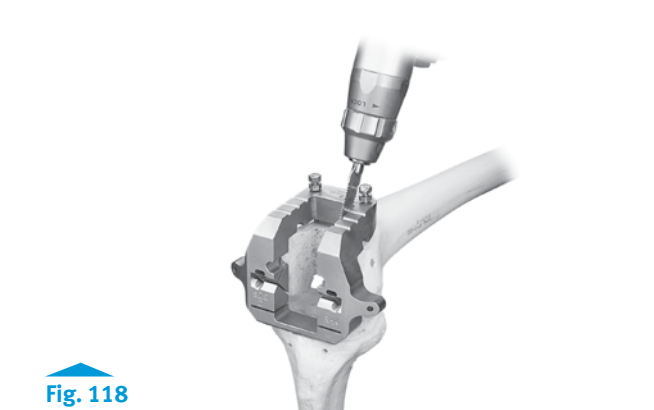

Fig. 118
- Use a reciprocating or narrow oscillating saw blade to cut the sides and base of the RH Knee box (Fig. 118).